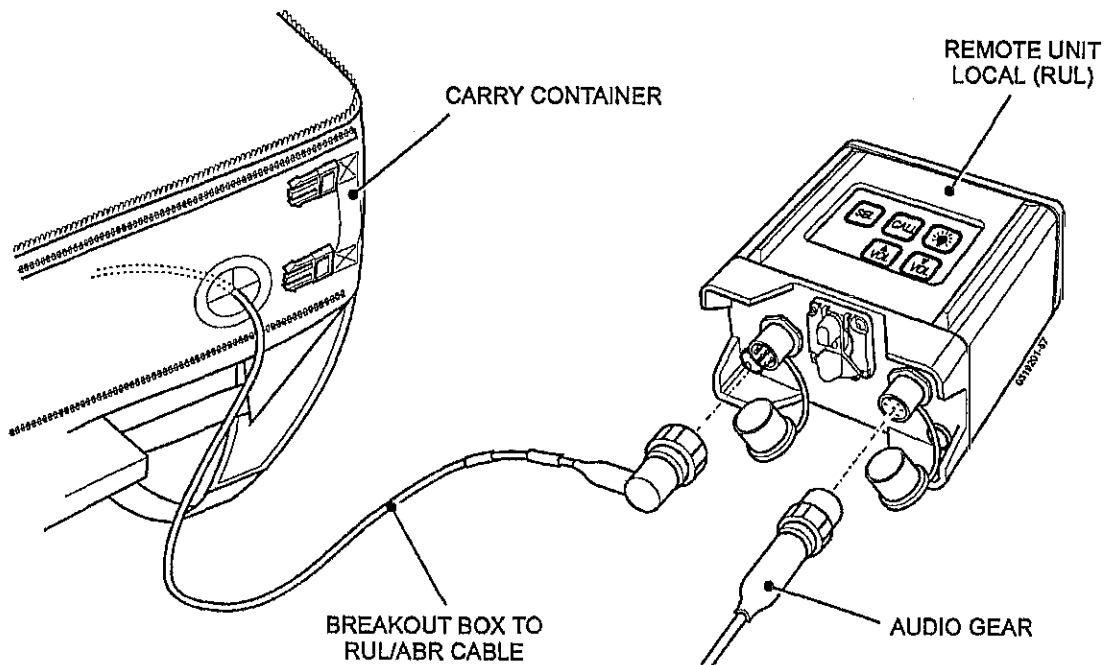

Fig 21 RUL connection - manpack station
85.5 Refer to Fig 21. Connect the breakout box to RUL/ABR cable to the RUL RADIO connector.